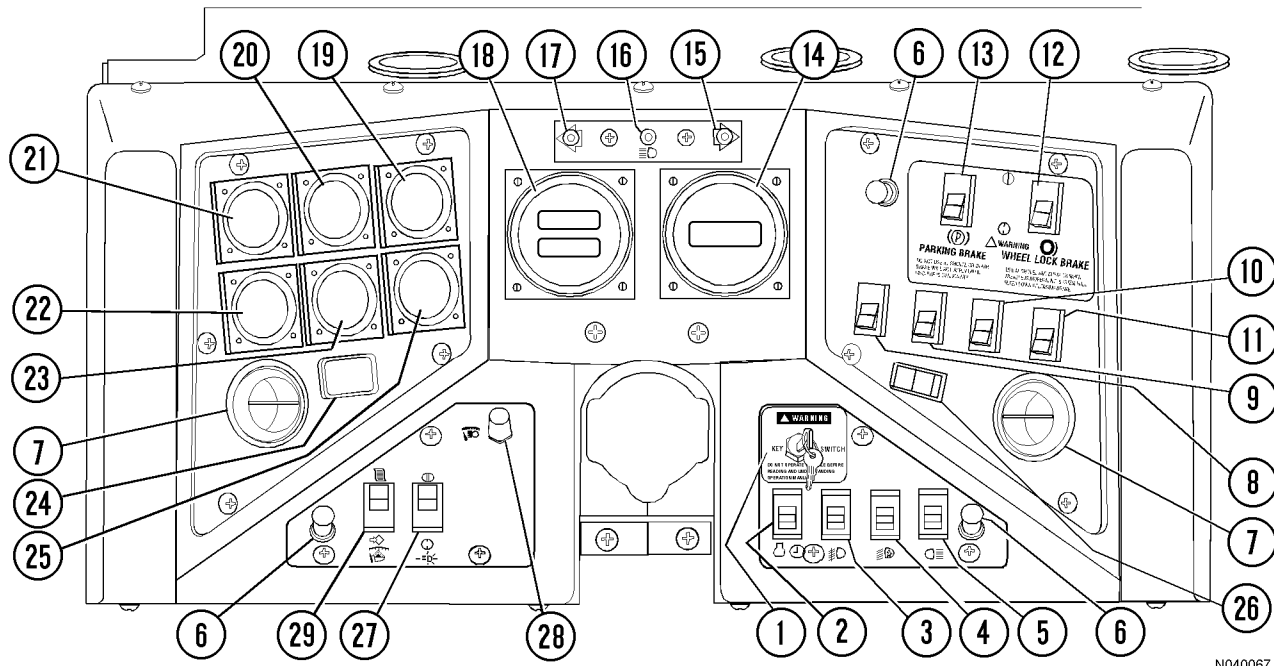

FIGURE 32-11. PANEL, GAUGES, INDICATORS, AND CONTROLS
The operator must understand the function and operation of each instrument and control (Figure 32-11). Control functions are identified with international symbols that the operator must learn to recognize immediately. This knowledge is essential for proper and safe operation.
Key switch (1, Figure 32-11) is a three-position (OFF, RUN, START) switch. When the switch is rotated one position clockwise, it is in the RUN position and all electrical circuits (except start) are activated.
Engine shutdown switch with timer delay (2, Figure 32-11) is a three-position, rocker-type switch (OFF, ON, MOMENTARY). Refer to Timer Delayed Engine Shutdown Switch procedure, Section 30, for a complete detailed operation of this switch.
Fog light switch (3, Figure 32-11) is used by pressing the top of the rocker switch to turn the lights on. Pressing the bottom of the switch turns the lights off. The fog lights are optional.
Ladder light switch (4, Figure 32-11) turns the ladder lights on and off. Pressing the top of the rocker switch turns the lights on. Pressing the bottom of the switch turns the lights off. Another switch is mounted at the front left of the truck near the base of the ladder.
Backup light switch (5, Figure 32-11) allows the backup lights to be turned ON providing added visibility and safety when the selector switch (see operator controls) is not in the REV position. When the switch is pressed toward the ON position, manual backup light indicator (B4, overhead panel) will be illuminated.
Panel illumination lights (6, Figure 32-11) provide illumination for the instrument panel. Brightness is controlled by panel illumination lights dimmer rheostat (28).
Cab air conditioner/heater vents (7, Figure 32-11) are spherically mounted and may be directed by the operator to provide the most comfortable cabin air flow.
Optional engine cold weather starting aid switch (8, Figure 32-11) is spring-loaded to the OFF position. Use only when the ambient temperature is below 10°C (50°F). When the switch is held in the ON position, ether is injected into the engine intake manifold to aid the engine starting in cold weather. For additional information, refer to Section 30, Engine Start-Up.
Press rotating beacon light switch (9, Figure 32-11) to the ON position to activate the rotating beacon. This is an optional feature.
Press heated mirror switch (10, Figure 32-11) to activate the heating element in the mirrors. This is an optional feature.
Wheel brake lock switch (12, Figure 32-11) must only be used when the engine is on. Use this function during dumping and loading. The brake lock switch actuates the hydraulic brake system, which locks the rear wheel service brakes only. When approaching the shovel or dump area, stop the truck using the service brake pedal. When the truck is completely stopped and in the loading position, apply the brake lock by pressing the rocker switch toward the ON symbol. To release, press the rocker switch toward the OFF symbol.
Parking brake switch (13, Figure 32-11) is spring-applied and hydraulically released. It is designed to hold the truck stationary when the engine is shut off and the key switch is turned OFF. The truck must be completely stopped before applying the parking brake, or damage may occur to the parking brake. To apply the parking brake, press the rocker switch toward the ON symbol. To release the parking brake, press the rocker switch toward the OFF symbol. When the key switch is ON and the parking brake switch is applied, parking brake indicator light (A3, overhead panel) will be illuminated.
Digital tachometer (14, Figure 32-11) displays the engine crankshaft speed in revolutions per minute (rpm).
Right turn signal indicator light (15, Figure 32-11) illuminates to indicate the right turn signals are operating.
High beam headlight indicator light (16, Figure 32-11), when lit, indicates that the truck headlights are on high beam.
Left turn signal indicator light (17, Figure 32-11) illuminates to indicate the left turn signals are operating.
Digital speedometer/payload meter display (18, Figure 32-11) indicates the truck speed in miles per hour (mph). With an optional speedometer, it may indicate the truck speed in kilometers per hour (kph). The display also shows the payload meter information. For more information, see Payload Meter, Section 60.
Voltmeter gauge (19, Figure 32-11) indicates the voltage of the 24V battery system. Normal indicated voltage at high rpm is 27 to 28 volts with the batteries in the fully charged condition. When key switch (1) is in the RUN position and the engine is stopped, the voltmeter gauge indicates the battery charge condition.
Engine oil pressure gauge (20, Figure 32-11) indicates the pressure in the engine lubrication system in pounds per square inch (psi). Normal operating pressure after engine warm up is 138 - 250 kPa (20 to 35 psi) at idle speed. If oil pressure is below this range, a problem may exist. Shut the engine off and notify maintenance personnel.
Engine water temperature gauge (21, Figure 32-11) indicates the temperature of the coolant in the engine cooling system. The temperature range after engine warm-up in normal conditions is 74° - 91°C (165° - 195°F). Temperatures outside of this range may indicate a problem.
Fuel gauge (22, Figure 32-11) indicates how much diesel fuel is in the fuel tank. Fuel tank capacity is 3217 liters (850 gallons.)
Engine hourmeter (24, Figure 32-11) displays the total number of hours the engine has been in operation.
Instrument panel lights, clearance lights, and headlights are controlled by headlight switch (27, Figure 32-11). OFF is selected by pressing the bottom of the switch. Press the top of the switch until it reaches the first detent to select the panel, clearance, and tail lights only. Press the top of the switch again until it reaches the second detent to select the headlights, as well as the panel, clearance, and tail lights.
Panel illumination lights dimmer rheostat (28, Figure 32-11) allows the operator to vary the brightness of the instruments and panel lights. Rotating the knob to the full counterclockwise position turns the panel lights on to the brightest condition. Rotating the knob clockwise continually dims the lights until the OFF position is reached at the full clockwise rotation.
Payload meter switch (29, Figure 32-11) is a two-way, momentary switch. The top position is the select position which is used to step through the different displays. The lower position is the set position which is used to set the operator ID or clear the load and total ton counters. Refer to Payload Meter in this module for a complete description of the payload meter system and its functions.